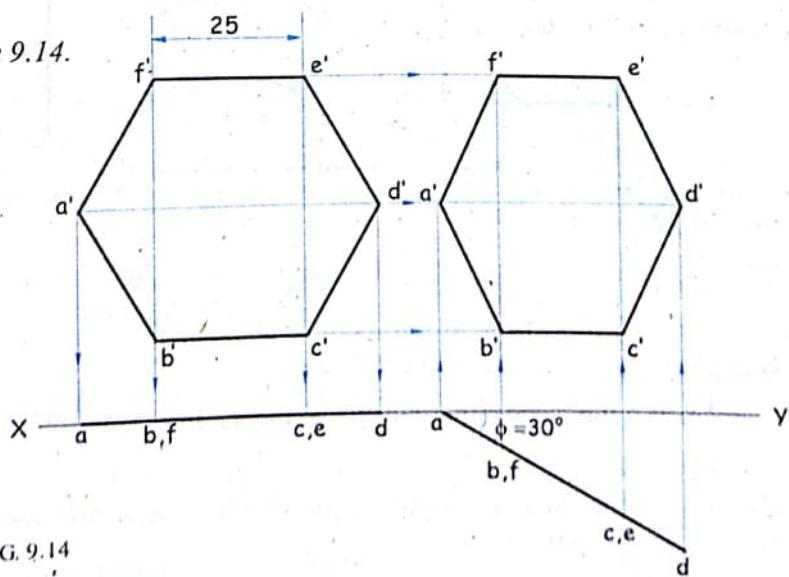

FIG. 9.14
*Solution :* Refer figure 9.14.